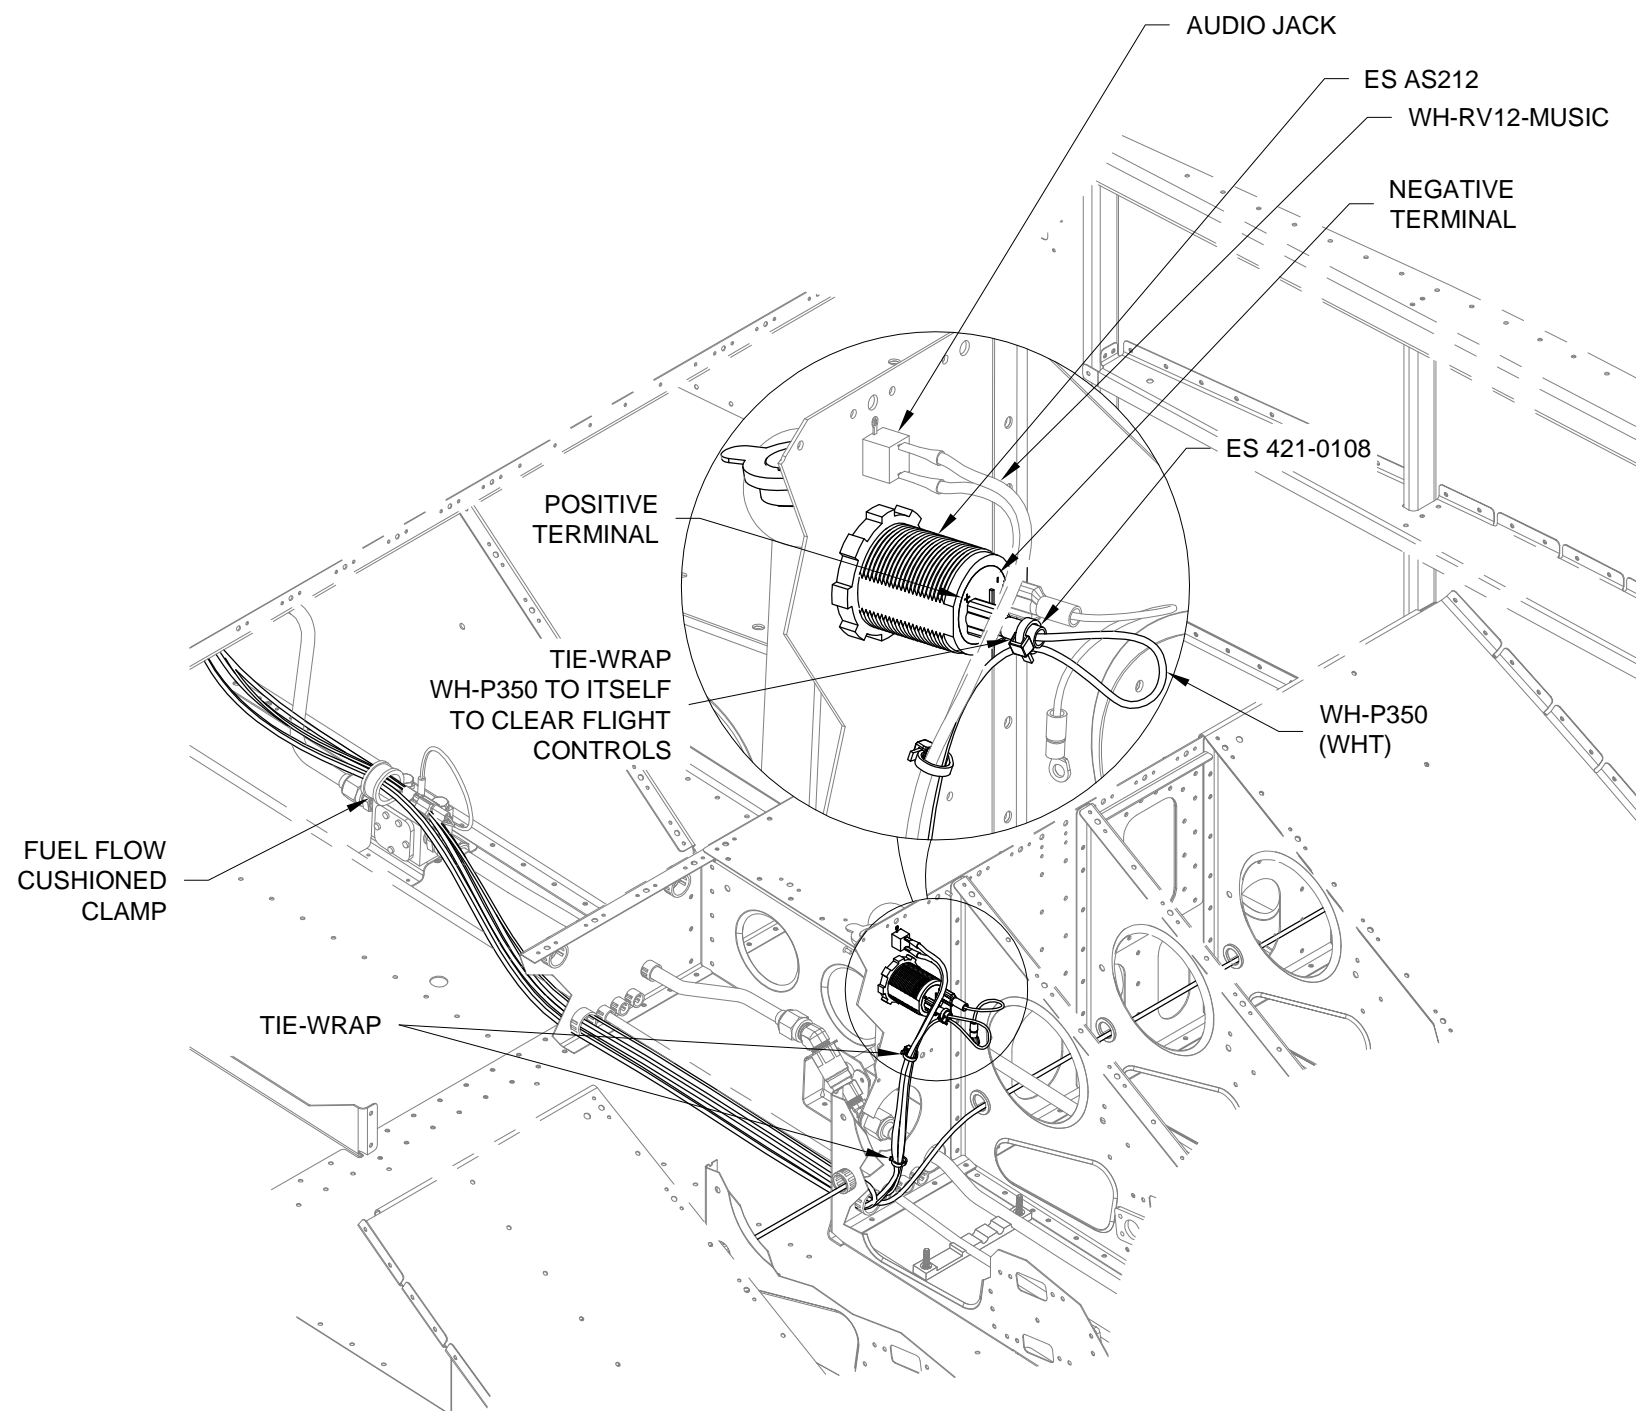

FIGURE 1: REPLACING THE POWER OUTLET WIRE
Route the longer wire to the right side F-00032 Fuselage Side Cover opening through the snap bushings in the F-1215-L & -R Seat Ribs. See Page 31-09, Figure 1.
Step 1: Remove the WH-B268 (WHT) Lighting Power Jumper Wire and corresponding ES-00079 Floating Connector Pin 16-20 AWG from the left side ES-00077 Floating 8 Pos Connector Female position 6 as shown in Figure 2. See Figure 1 for reference on the overall fuselage configuration.